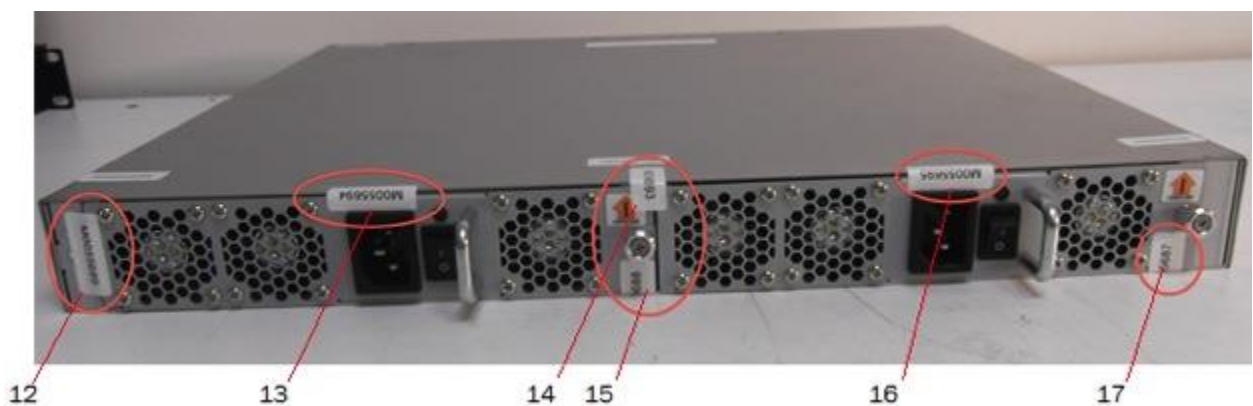

Figure 4. Brocade VDX 6740 rear seal locations
4. **Rear:** Apply three (3) seals wrap across a 90-degree angle from the top of the chassis to the external surface of the combination power supply and fan module. Apply two (2) seals wrap across a 90-degree angle from the bottom of the chassis to the external surface of the combination power supply and fan module. Apply one (1) seal bridges the seam between the chassis and the combination power supply and fan module on the left side of the non-port side of the chassis. Refer to **Figure 4** for details on how to position each seal.